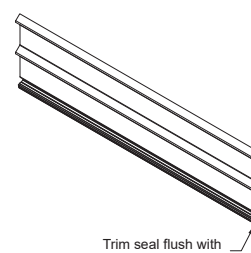

Figure 3
- 3) Trim seal flush with the end of the blade. (Figure 3)